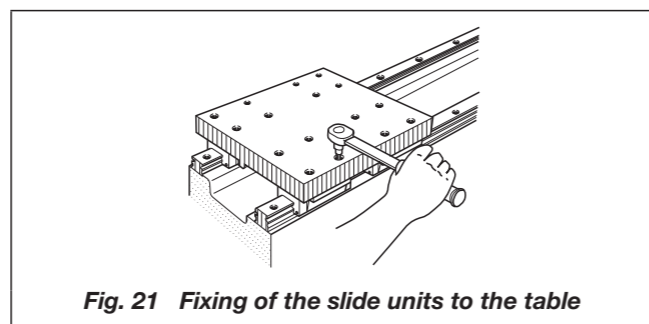

Fig. 21 Fixing of the slide units to the table
- Correctly fix one of the slide units of Linear Way II in relation to the linear motion direction and leave other slide units temporarily tightened with mounting bolts. (See Fig. 21.)